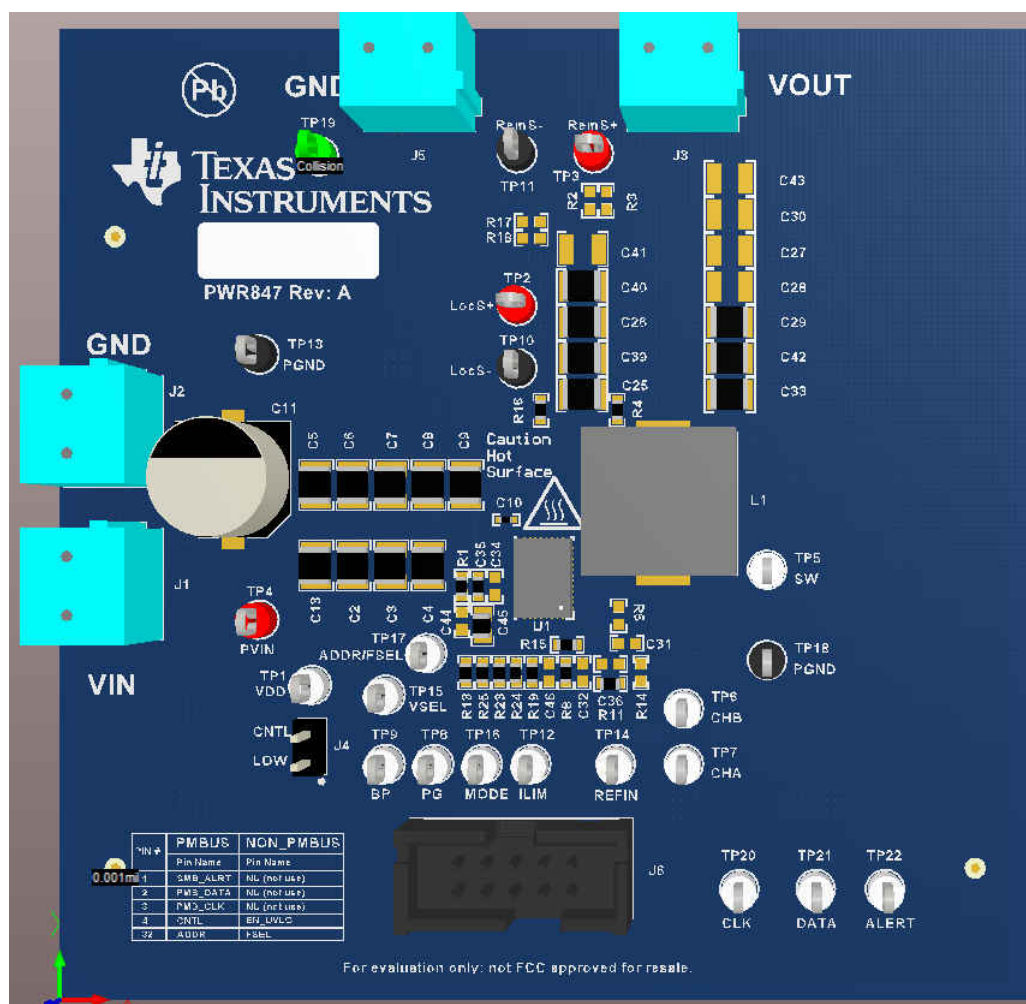
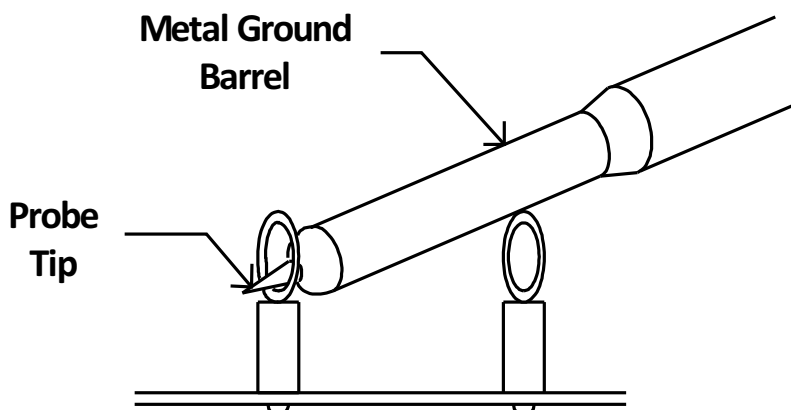

Figure 7-1. PWR-847EVM Overview
Figure 7-2. Tip and Barrel Measurement
Multimeters: It is recommended to use two separate multimeters Figure 7-1. One meter is used to measure V_{IN} and one to measure V_{OUT} .
Output Load: A variable electronic load is recommended for testing Figure 7-1. It must be capable of 25 A at voltages as low as 0.6 V.
Oscilloscope: An oscilloscope is recommended for measuring output noise and ripple. Output ripple must be measured using a tip-and-barrel method or better as shown in Figure 7-2. The scope must be adjusted to 20-MHz bandwidth, AC coupling at 50 mV/division, and must be set to 1-μs/division.
Figure 7-1 and Figure 7-2 illustrate the PWR-847EVM overview, tip and barrel measurement.
1. Connect VOUT to J3 and VOUT_GND to J5 Figure 7-1.
3. Connect VIN to J1 and VIN_GND to J2 Figure 7-1.